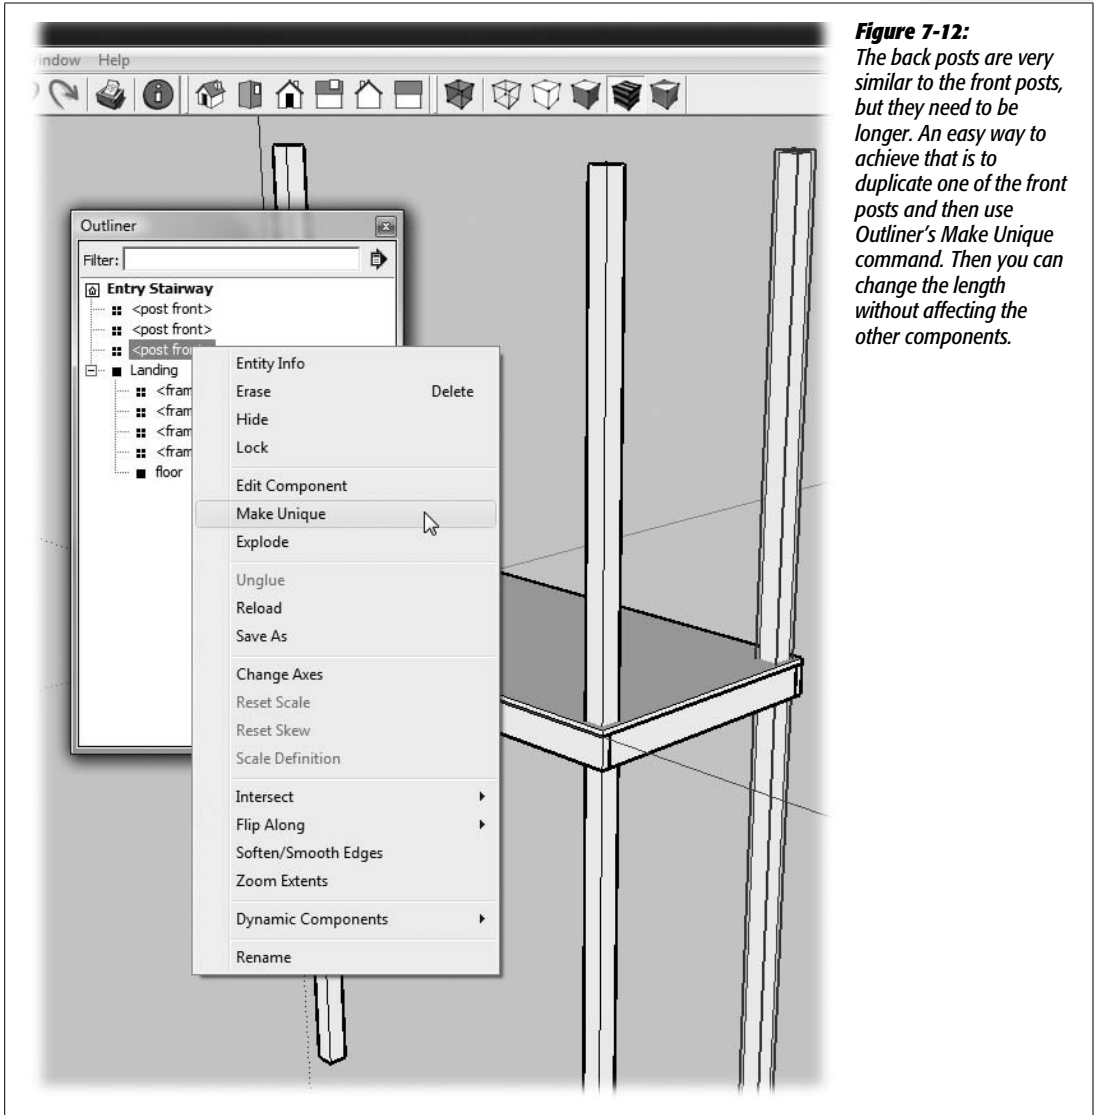

Figure 7-12:
2. In Outliner, right-click the duplicated component and choose Make Unique (Figure 7-12).